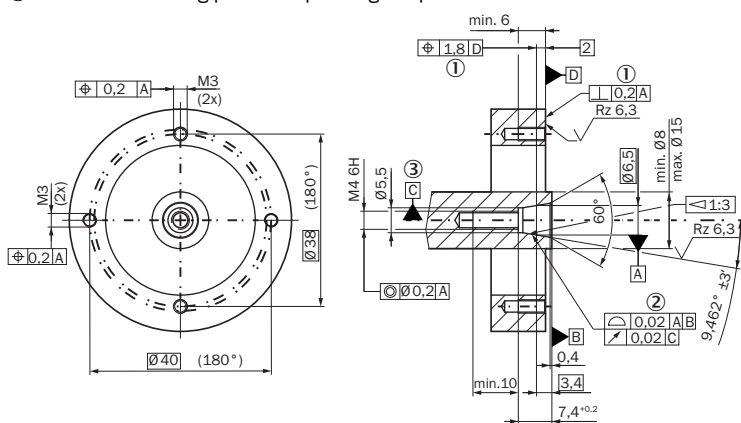

Figure 6: Conical shaft mounting specification
- 9 The defined measuring point (4) on the motor feedback system must be used for measuring the operating temperature (see dimensional drawing, Figure 6).